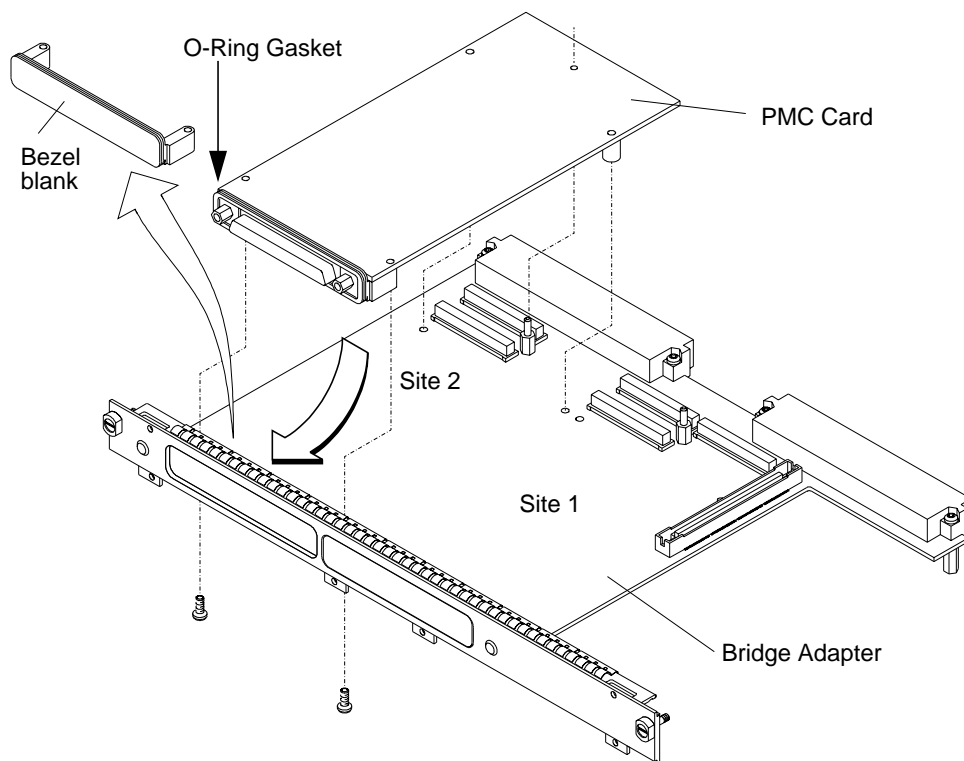

Figure 5
- 9 On the PMC bridge adapter board, at the sites where you will be installing the PMC card(s), remove the two screws that secure the bezel blank(s), and remove the blank(s). See Figure 5.
- 10 Install the PMC card(s) onto the bridge adapter by aligning the front of the card with the front bezel, and the rear of the card with the connectors and keying pin. See Figure 5. There are four screws that secure the PMC card from the bottom of the bridge adapter.